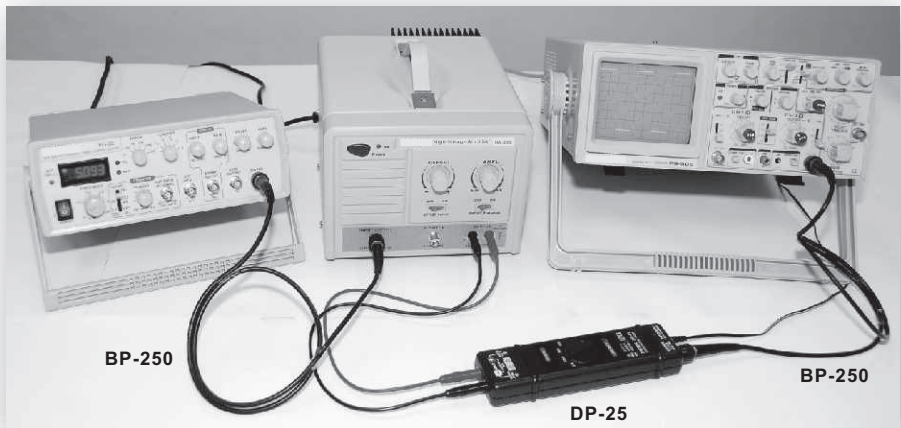

Figure 4.
5.2 Use Function Generator as input, and HA-205 output connects to Differential Probe as interface to transmit signal to oscilloscope to observe. (Figure 4.)